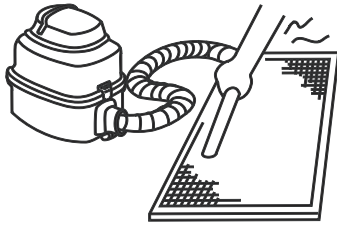

Figure 11.3
- The air intake side should face up when using a vacuum cleaner. (Refer to Figure 11.3)